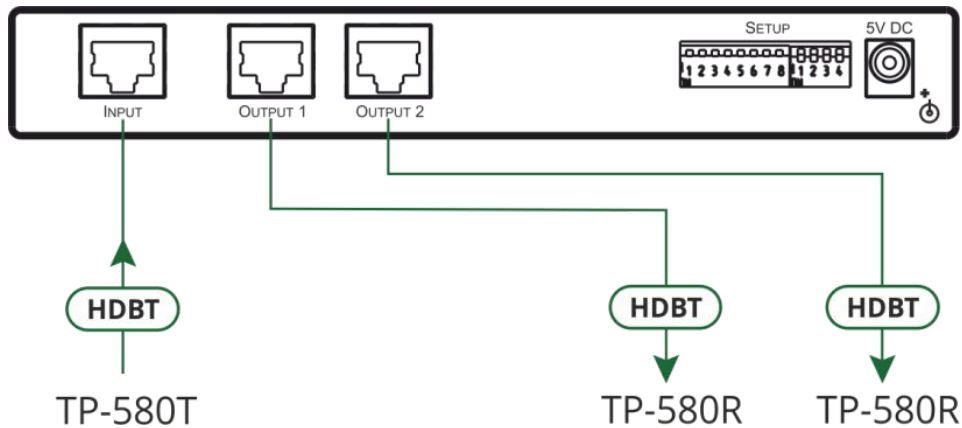

Figure 2: Connecting to the VM-2DT Rear Panel
To connect the VM-2DT as illustrated in the example in Figure 2:
3. Connect the 5V DC power adapter to the power socket  unit and then connect the adapter to the mains electricity (not shown in Figure 2). The ON LED lights .